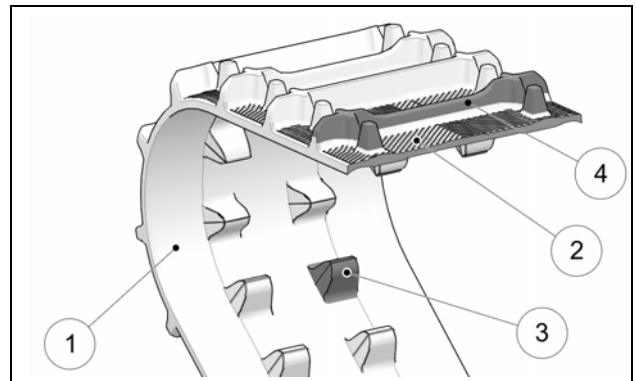

Figure 36
Wear of external profile impacts track performance directly. Important wear on profiles means less traction. Replace track if you notice a significant loss of performance. Verify internal (1) and external (2) rolling path, driving lugs (3), and profiles (4). Presence of tears, perforations or delamination in these places can render the Track system inoperable. Replace track to prevent failure risks. See Figure 36.